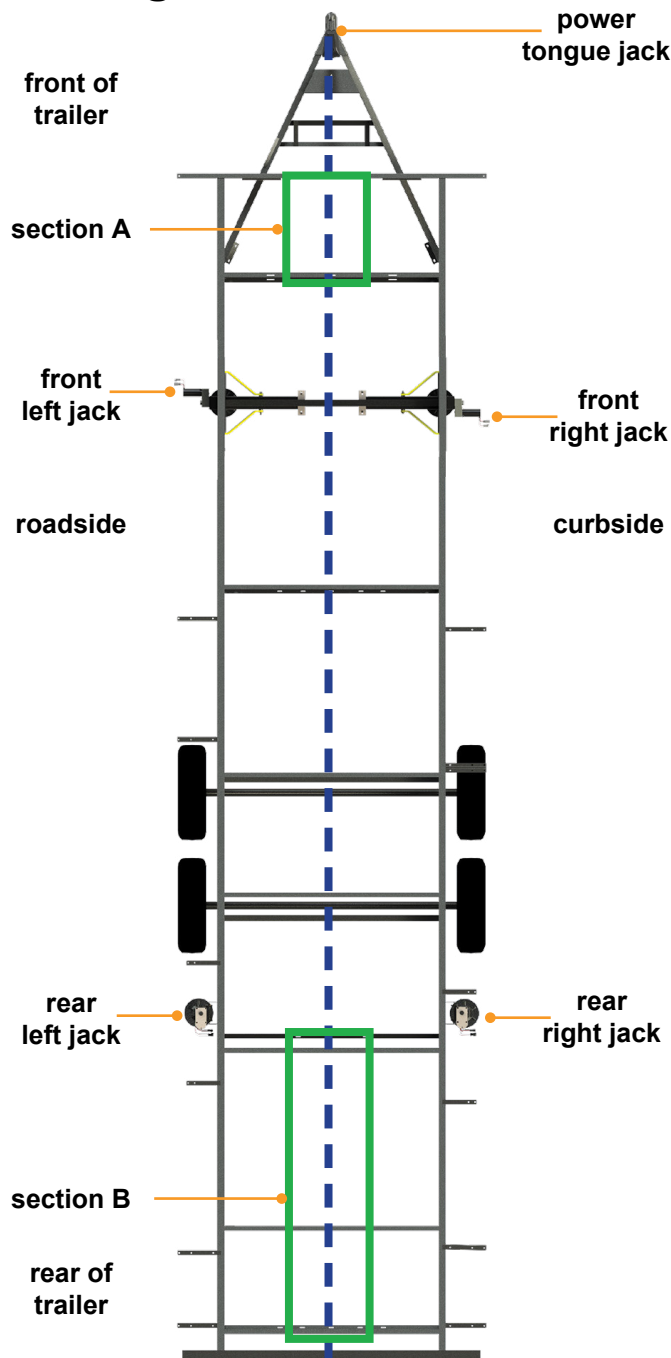
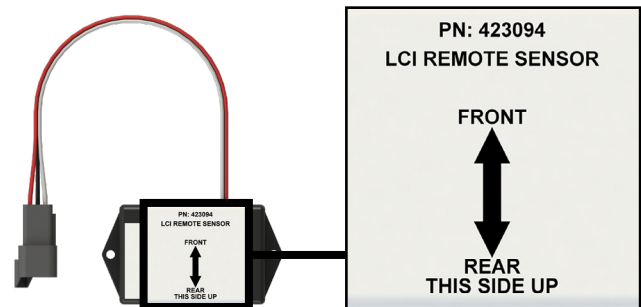

Fig.18
Fig.19
The leveling sensors have a limited mounting area for proper performance. The front sensor must be within 36" from the front of the frame as signified by section A in (Fig.18). Make sure the front sensor is mounted in line or in front of the front leveling jacks. The rear sensor must be in line with or behind the rear leveling jacks, as signified by section B in (Fig.18). Both the front sensor and the rear sensor must also be mounted in line with the center of the frame, as signified by the dotted blue line in (Fig.18).
The Leveling Sensors (Fig.19) must be oriented on the crossmembers with the arrows on the top of the sensor pointing in the correct direction (Fig.19). See (Fig.18), sections A and B, for location clarification.
3. Attach the mounting plate and sensor assembly (Fig.22B) to the crossmember (Fig.22A) using two #12 x 1" screws (Fig.22C). Make sure that the plate is centered side to side on the frame and that the sensor is oriented properly. See figure 18, sections A and B, for location clarification.